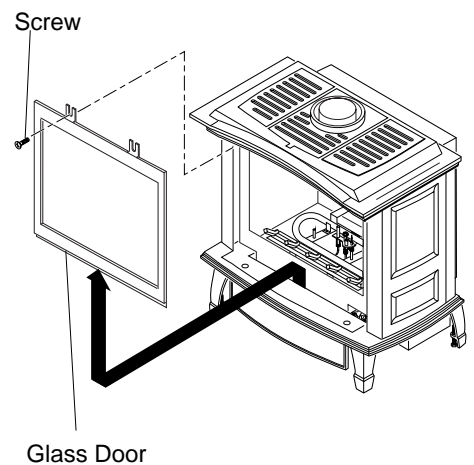

Figure 44 - Removing Glass Door from Burner System
2. Remove the screws from the 2 tabs at the top of the glass door while holding door securely keeping it from falling forward (see Figure 44).
3. Grasp door by both sides and ease it upward off of the lower bracket (see Figure 44).